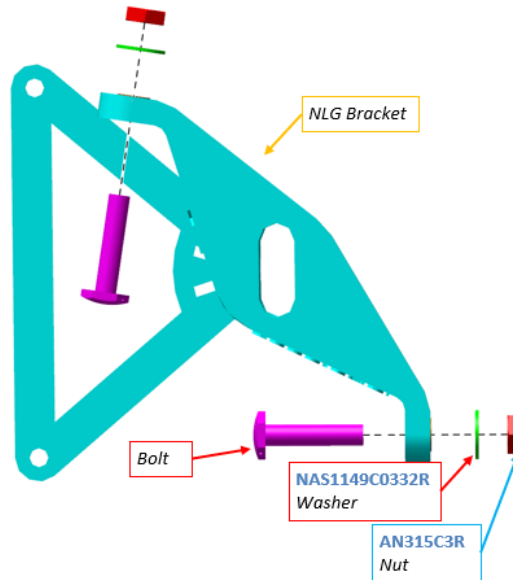

Figure 9. Adjuster Bolt Hardware Stackup
7. Remove the (2) adjuster bolts from the limit switch bracket assembly; retain jam nuts and washers. See **Figure 9**.
9. Install thumbscrews in the same manner as the bolts from **Figure 9**.